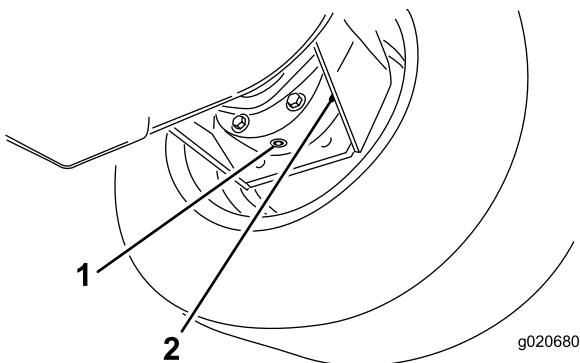

Figure 106
- Place a drain pan under the brake housing, remove the drain plug, and allow the oil to drain (Figure 106).